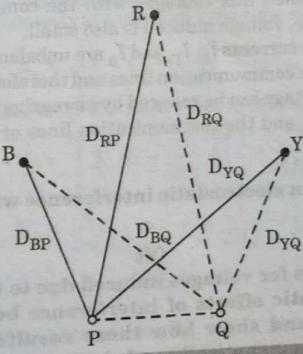

Fig. 2.25.1. Three-phase power line and communication line.
2. Consider a three-phase overhead transmission system consisting of three conductors  $R$ ,  $Y$  and  $B$  spaced at the corners of a triangle and two telephone conductors  $P$  and  $Q$  below the power line conductors running on the same supports as shown in Fig. 2.25.1.